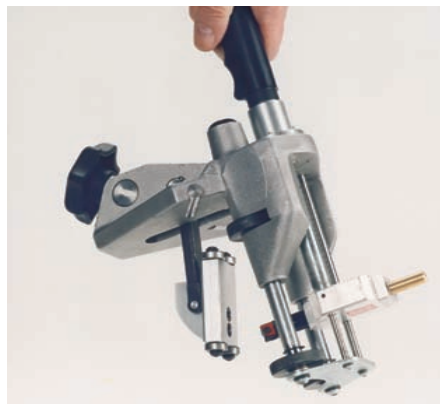

fig. 2
- Turn the tool anti-clockwise with twisting movements until it reaches the mark for the required scraping dimension (Fig. 2).